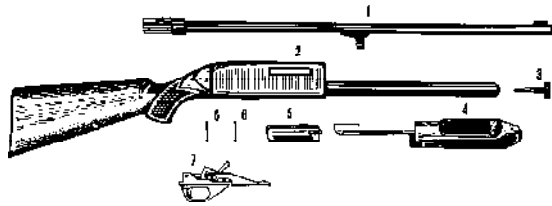

Fig. 3 - IZH81M Assembly Units
**3) Fig 3:** The trigger assembly can be removed with the barrel and bolt removed or without the barrel and bolt removed. To remove the trigger assembly all you do is remove the two pins that hold the trigger assembly in place and pull the trigger assembly from the receiver. The pins can be removed with a hammer and a punch.